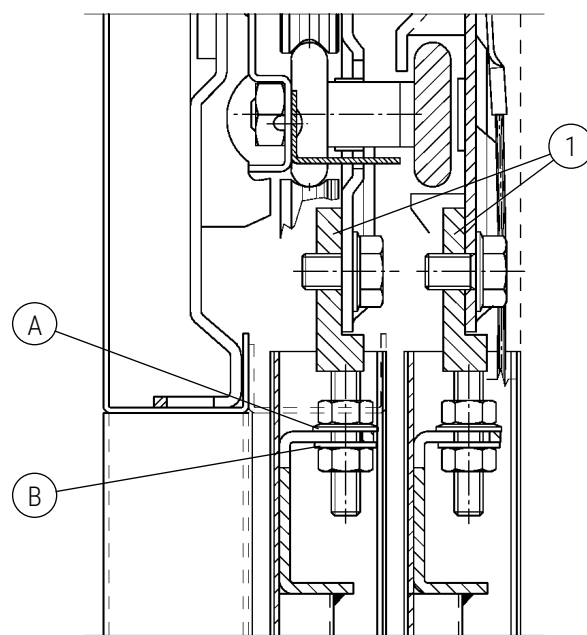

Fig. 4
Type 11/R-L Standard - coated according to DIN 18091: place the panel (1) fixing bolts as shown on fig.4.
Aim of this bracket is to avoid the excessive panel spread and has to be adjusted to a max distance of 1 mm from the guide rails as shown in Fig.4.